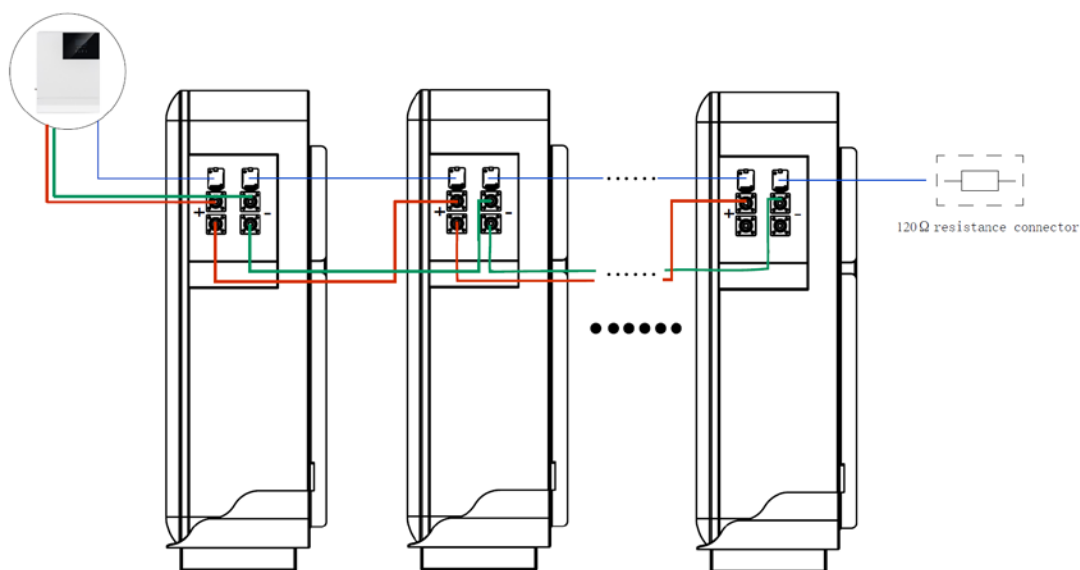

Figure 9. Connect the internal cables
- 2、 According to the power value of the inverter, the power cable should be connected. If multiple batteries are used in parallel, the power cables should be connected according to the wiring mode in Figure 9.